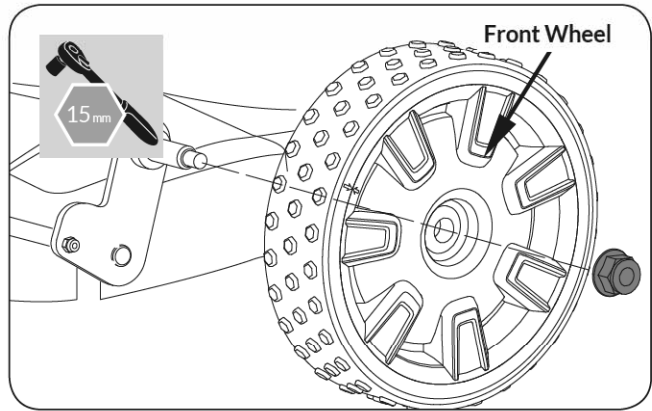

Figure 28
3. Assemble the new wheel with wheel nut. (See **Figure 28**)